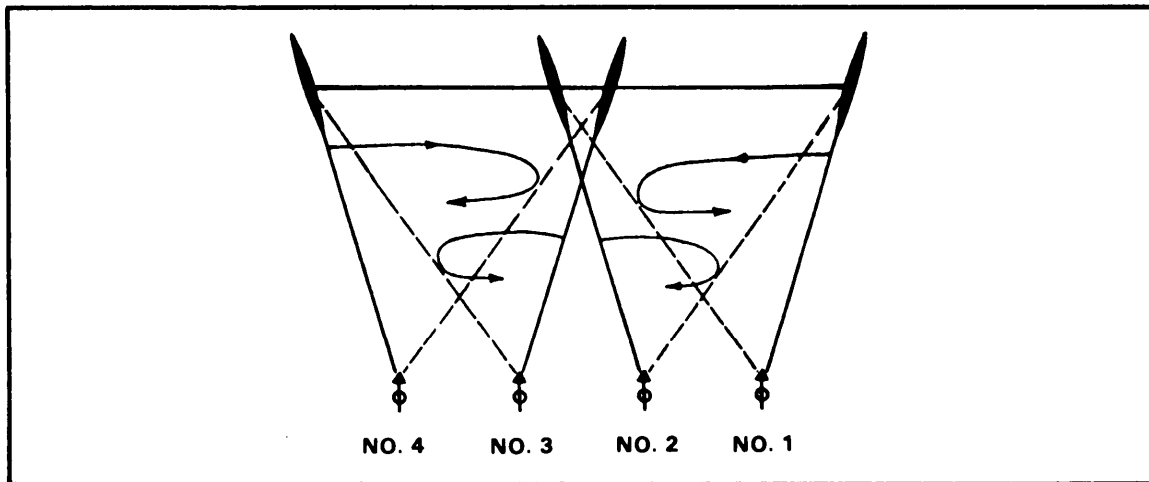

Figure 6-14. Pair of MK 19s engaging each half of a target 100 to 200 mils in width.
- o Each pair of MK 19s engages half the target (Figure 6-14).